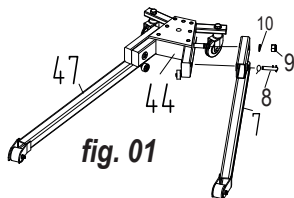

fig. 02
- See figure 02 : Use the washer #2 with the tensioned washer #43 and the bolt #42 to attach column #20 onto the base #44.